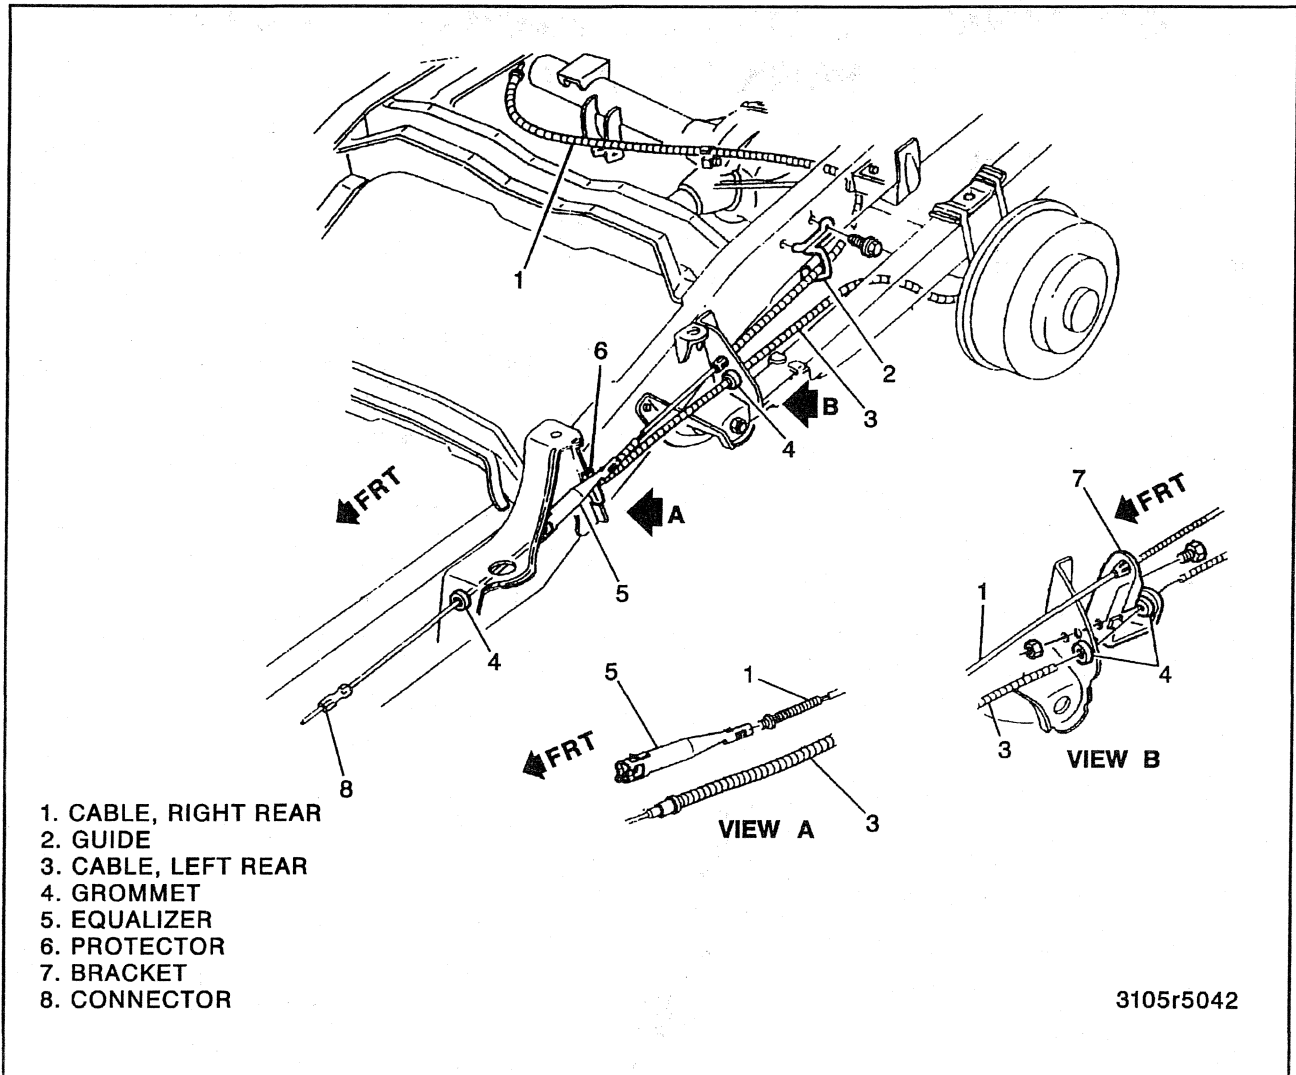

Figure 3—Rear Parking Brake Cable
2. Loosen adjusting nut at equalizer (5) (figure 3).
3. Connector (8).
4. Cable (5) from parking brake lever (1).
- Bend in the retaining fingers (6) at the frame bracket.
5. Front cable (5).
Remove or Disconnect (Figure 3)
Install or Connect (Figure 3)
Adjust (Figures 3 and 4)